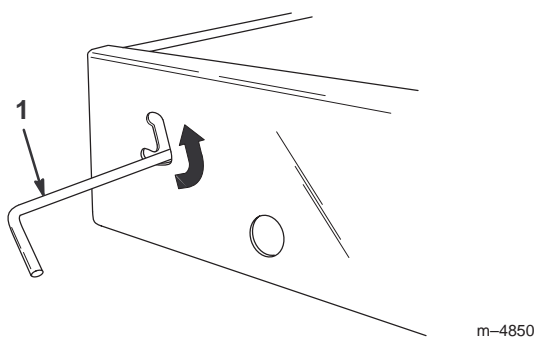

Figure 9
- Slide the latch upward toward the top of the cutout in the bed frame (Fig. 9).
- To secure the bed tightly to the bed frame, move the latch to the lower section of the cutout (Fig. 9).